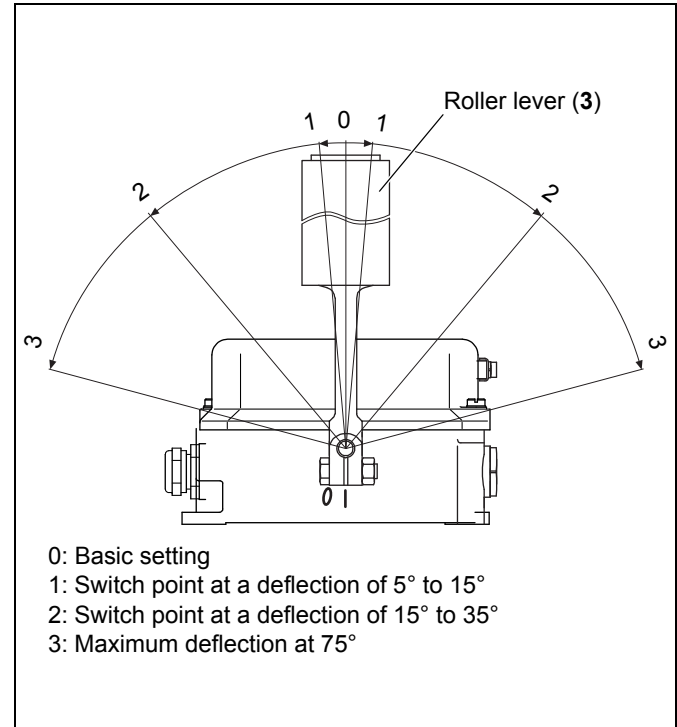

Fig. 3-1: Belt misalignment switch for conveyor belt system – Switch points (adjustable)
The roller lever (3) of the belt misalignment switches can be moved in both directions (see fig. 3-1). By moving the roller lever (3) the cam disks (11) are turned. The cam disks (11) operate the switches (7). The cam disks (11) are adjustable and make it possible to adapt the switch points to local conditions.